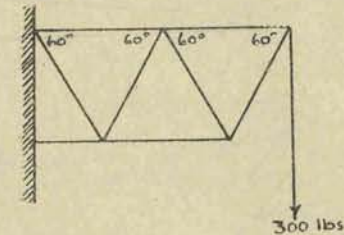

Fig. 6.
6. Find the stresses in the members of the cantilever frame shown in Fig. 6, which is drawn to scale.